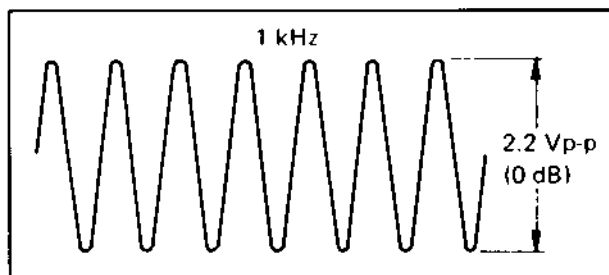

Fig. 5-36 Playback level
3. Adjust R117 (P.B. LEVEL) so that the level of TP-19 is 2.2 Vp-p (0 dB) as shown in Fig. 5-36.